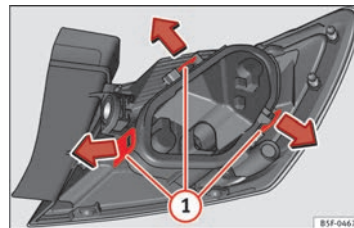

Fig. 198 Retaining tabs on reverse side of tail light.
- Remove the bulb holder ⇒ Fig. 198 unlocking the retaining tabs ①.